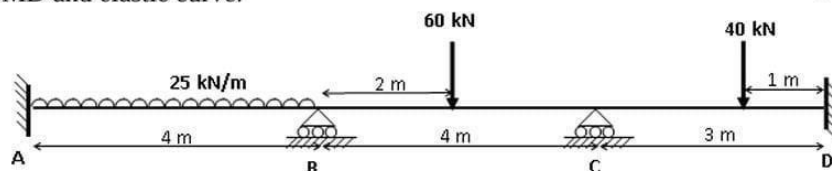

Figure 2
3. Using Kani's method, analyse the continuous steel beam supported and loaded as shown in figure 2, if the support 'C' settles by 20 mm. Assume $I = 30 \times 10^{-5} \text{ m}^4$. Draw BMD and elastic curve. [15]